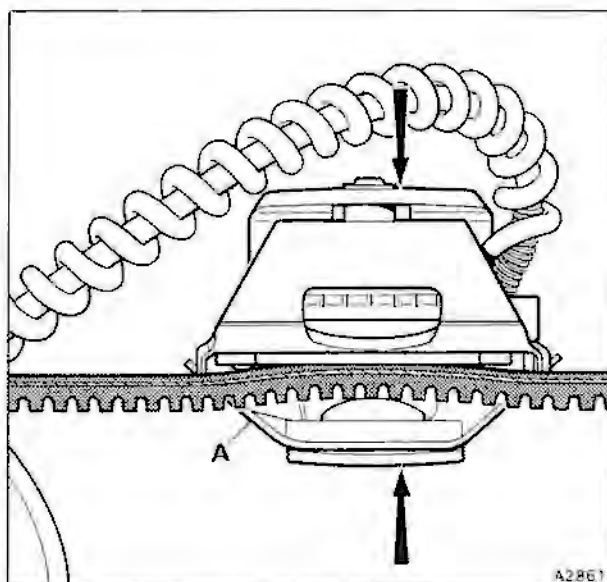

Fig. E13-2 Clamping unit in position
4. Belt tension readings should always be taken on one belt only. Therefore, when measuring twin belts the belt blocker should be fitted prior to using the tensometer (see fig. E13-2).
5. Open the jaws of the clamping unit by applying pressure at the two points indicated by the arrows in figure E13-2.